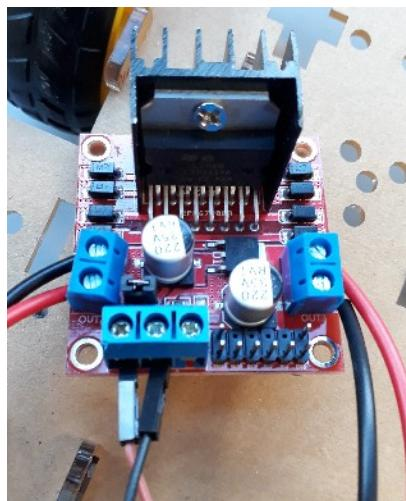

Figure 14: Brown and black wires added to the motor driver board (bottom left). You can use any color wire.
Step 13: Once you have wired up the wires carrying current to the motors, you then need to add the wires carrying power to the circuit board from the battery. Choose two wires with two male ends and add them screw them into the circuit board as show in figure 14. I've used brown and black wires, but you can use any color wires you want.